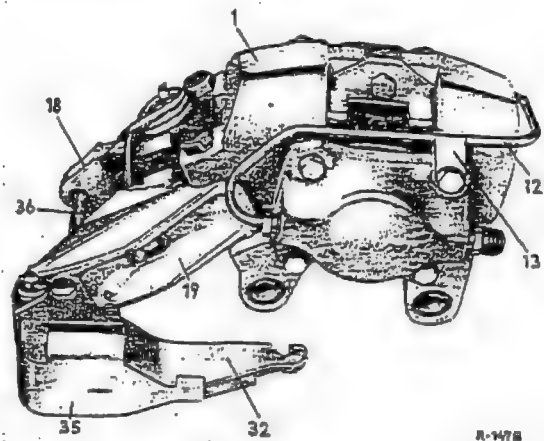

Fig. 42-27/2
2. Pull the cotter (43) which secures the adjustment screw (36) out of the outer lining carrier (18) and unscrew the adjustment screw from the automatic adjustment (Fig. 42-27/3).